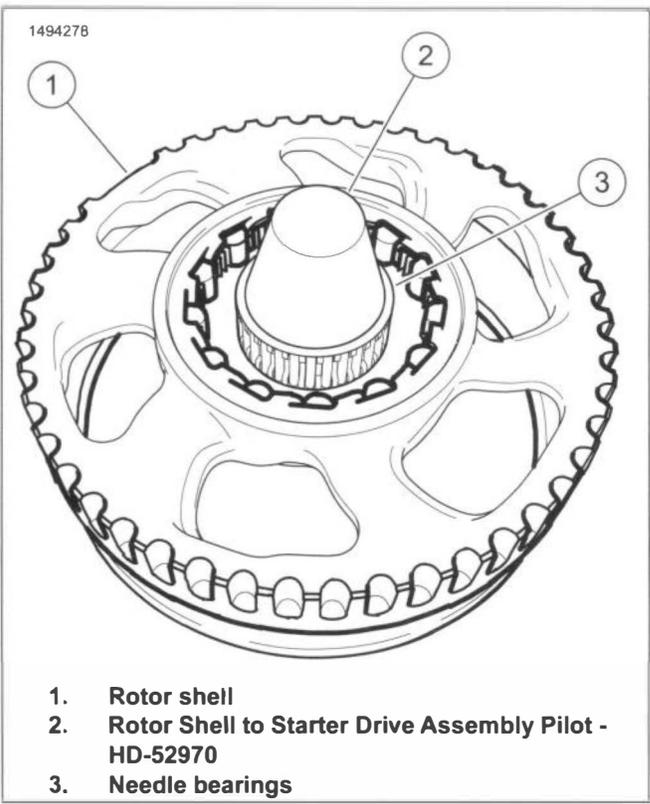

Figure 8-14. Installing Needle Bearings
- b. See Figure 8-14. Install needle bearings (3) over assembly pilot (2).